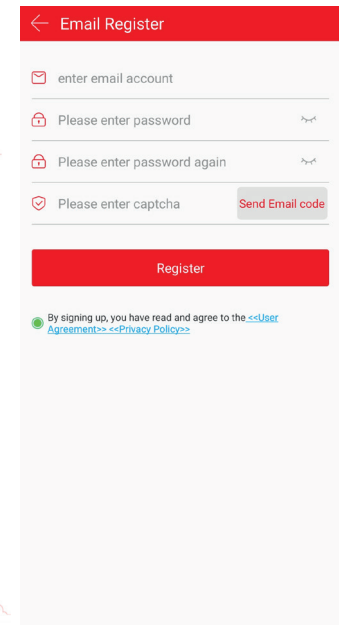

Fig.21
- When starting the application for the first time, enter your e-mail, to which a verification code will be sent. Enter the address in the registration window (Fig. 21).